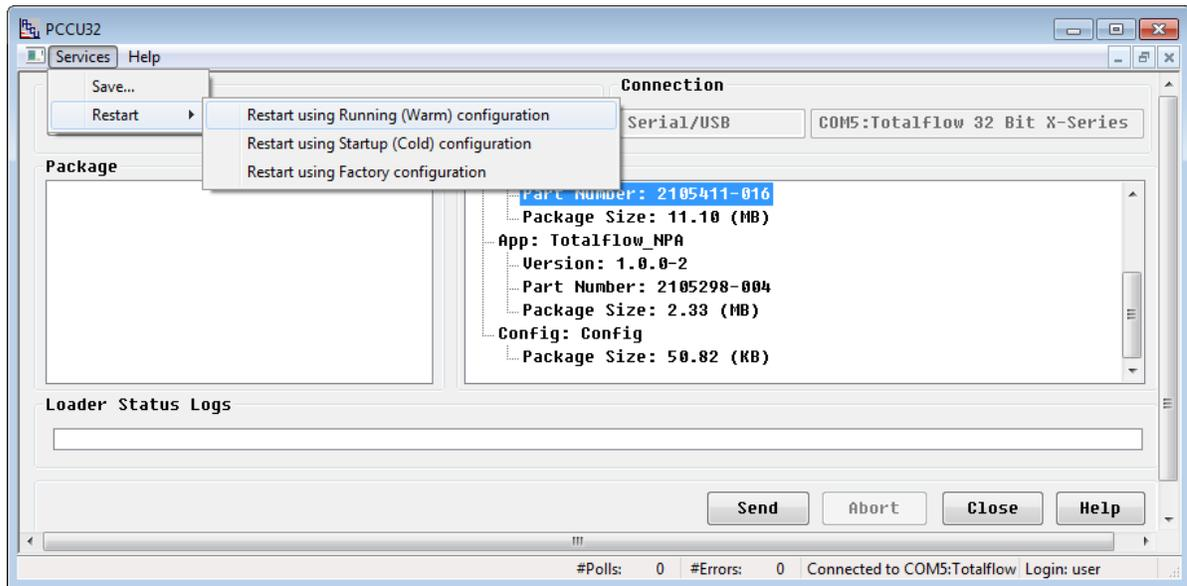

Figure 70: Warm restart using the device loader
6. Click **Services** in the menu bar and select **Restart > Restart using Running (Warm) configuration** (Figure 70).